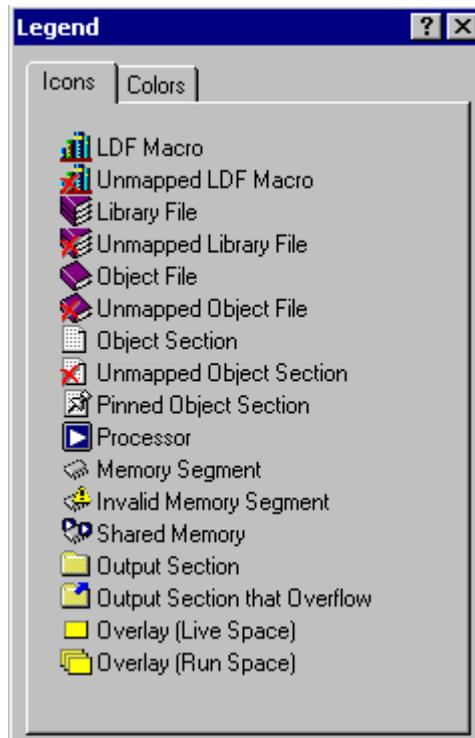
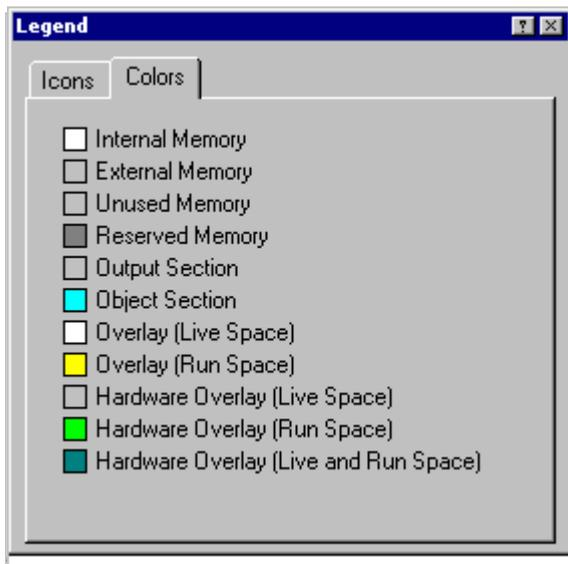

Figure 3-8. Legend Dialog Box – Icons Page
Figure 3-9. Legend Dialog Box – Colors Page
A red “x” on an icon (for example, ) indicates the object/file is not mapped. Once an input section has been completely mapped (that is, all object files that contain the section are mapped), the icon next to the input section changes to indicate that it has been mapped; the “x” disappears. See Figure 3-8.
Use the **Legend** dialog box to displays all possible icons in the tree pane and a short description of each icon. (Figure 3-8)
Click the **Colors** tab to view the **Colors** page (Figure 3-9). This page contains a list of colors used in the graphical memory map view; each item’s color can be customized. The list of displayed objects depends on the DSP family.
When a memory segment is invalid (for example, when a memory range overlaps another memory segment), the memory width is invalid. The tree shows an **Invalid Memory Segment** icon (also see Figure 3-8 on page 3-13). Move the mouse pointer over the icon and a tooltip displays a message describing why the segment is invalid.
**View Legend** – Displays the **Legend** dialog box showing tree view icons and a short description of each icon. The **Colors** page lists the colors used in the graphical memory map. You can customize each object's color. See Figure 3-8 on page 3-13 and Figure 3-9 on page 3-14.